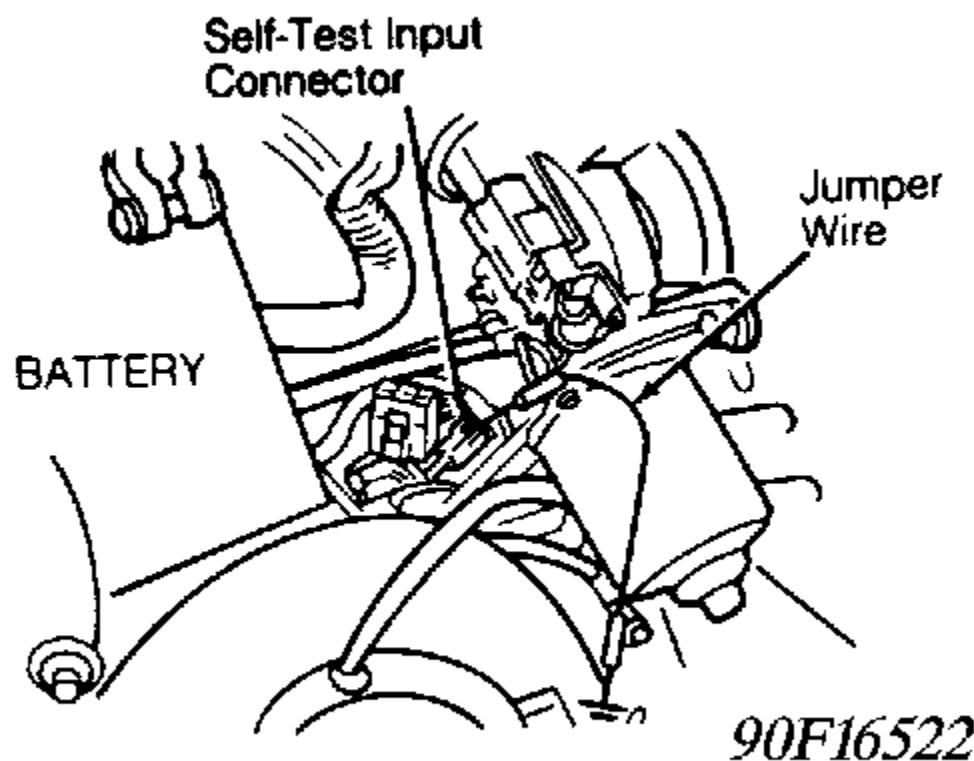

Fig. 1: Locating Self-Test Input (STI) Connector
1. Place manual transmission in Neutral or automatic transmission in Park. Turn all accessories off. Locate one-wire STI (Black) connector near master cylinder. Using a jumper wire, connect STI terminal to ground. See Fig. 1. Connect timing light and tachometer.
1. Turn off all accessories. Place automatic transmission in Park or manual transmission in Neutral. Set parking brake. Connect tachometer to engine. Warm engine to normal operating temperature. Connect a jumper wire between single-wire STI test connector (Green on Capri; Black on Festiva) and ground. See Fig. 1.